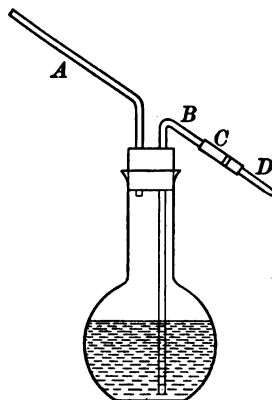

FIG. 14
*e.* After practicing the above manipulations, make a wash bottle according to Fig. 14. Use a 500-cc. flask. A and B are glass tubes. B is connected with the